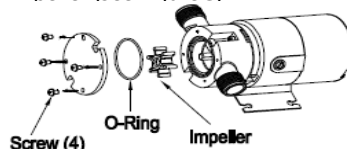

Figure 3 – Disassembly
- Remove the 4 body screws, the O-Ring, and the impeller (See Figure 3).